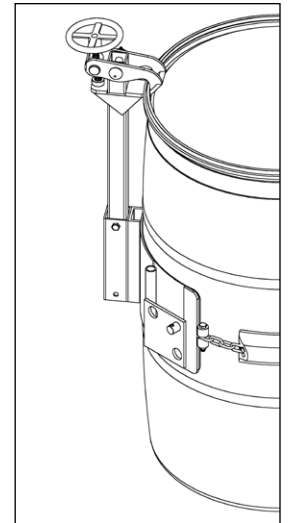

Figure 2.2
- The **Top Rim Clamp** (Part # 4560-P) grips the upper rim of your drum to prevent it from slipping through the drum holder (see figure 2.2). To handle a 55-gallon (208 liter) plastic drum with top rim, you **must** install either the Bracket Assembly or the Top Rim Clamp. You can use the Top Rim Clamp with a 55-gallon plastic, steel or fiber drum with suitable top rim